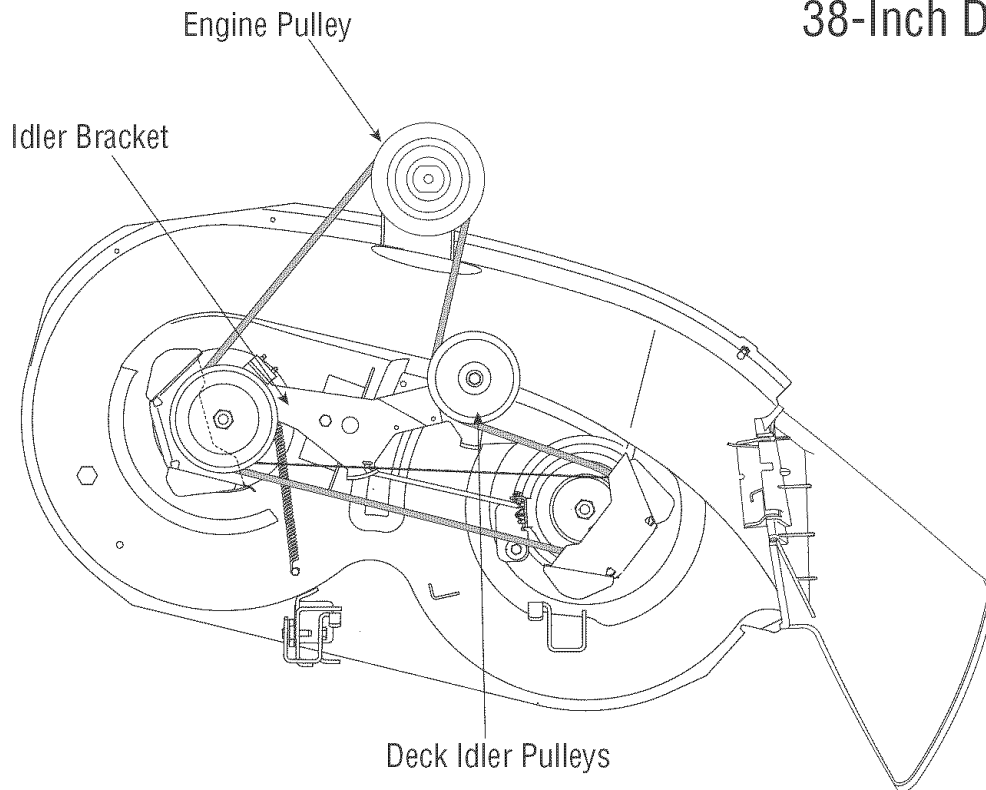

Figure 27
8. Route the new belts as shown in and Figure 27 and 28.